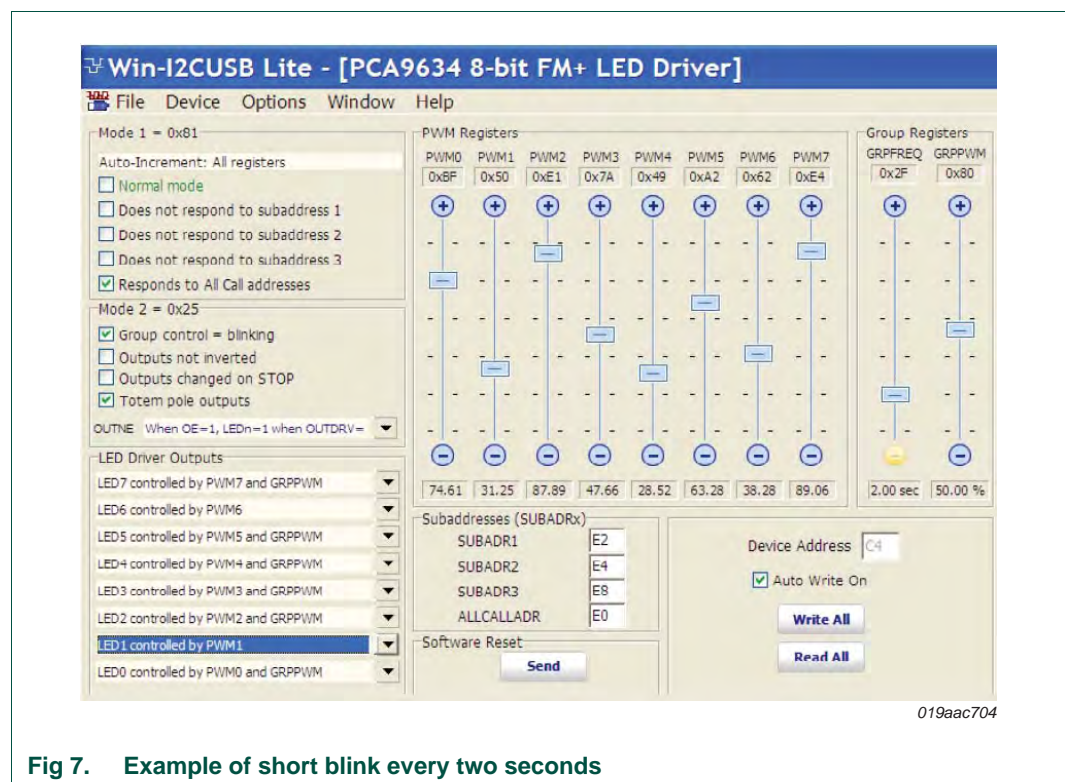

Fig 7. Example of short blink every two seconds
4. For example, set the GRPPWM to 0xE7 (90.23 % duty cycle) and the GRPFREQ to 0x2F (2 second) for a short blink every two seconds (see Figure 7).